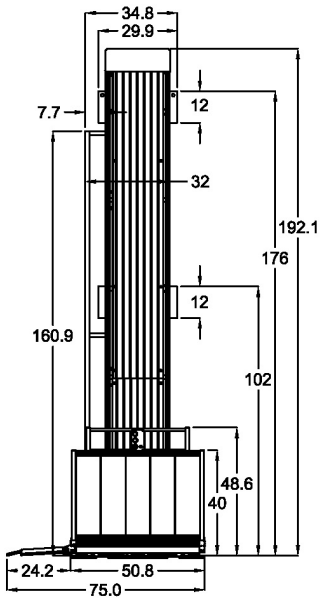

FIG 168.1
- 168" bracing must attach to an existing structure that is between 164" (min) and 174" (max) for the Upper Brace, and 90" (min) and 102" (max) for the Lower Brace. FIGs. 168.1 and 168.2.
BACK BRACE – FIG. 168.1